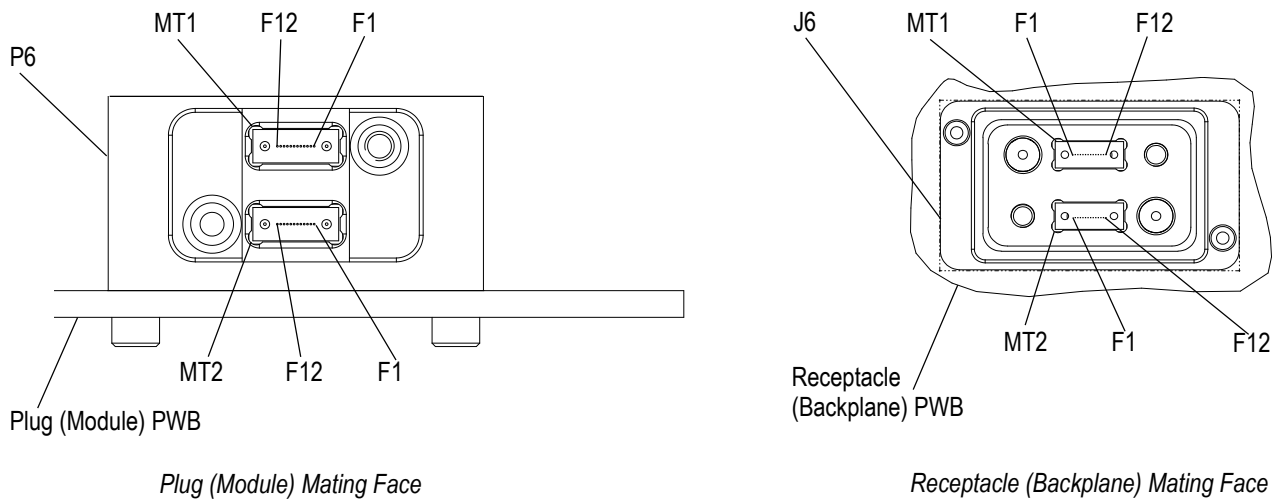

Figure 17
D. Ferrule and Circuit Identification (Figures 17 and 18)
The “P6” and “J6” identified in Figure 17 are shown as examples and are variable for the module and backplane position in accordance with VITA 66.0.